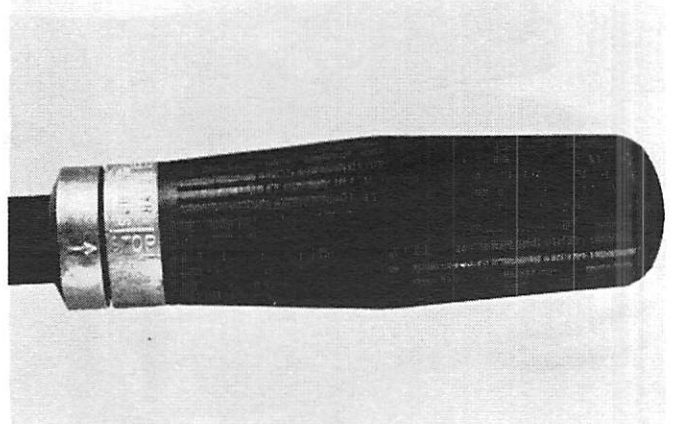

Figure 9. Handle Grip Position
11. Turn handle grip clockwise until grip stops. Markings on grip indicator and mark on tube will be positioned as shown in Figure 9.